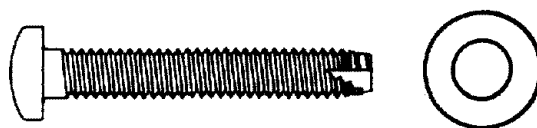

Fig. 81 - Mounting Screw and Washer
4. Put a *washer* on each of the *mounting screws*. (Figure 81)